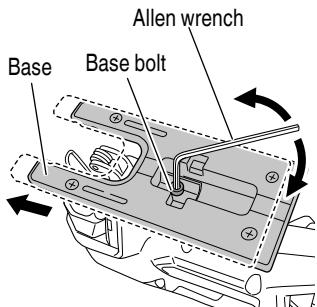

Fig. 25
- (1) Loosen the base bolt allen wrench attached on base. (Fig. 25)
- (2) Move the base fully forward, and tighten the base bolt again. (Fig. 25)
- (3) Set the orbital position to "0".
- (1) Loosen the base bolt by allen wrench attached on base and move the base fully forward. (Fig. 25)
- (3) Tighten the base bolt again. (Fig. 25)
- (4) Set the orbital position to "0" - "III".
(Fig. 25)